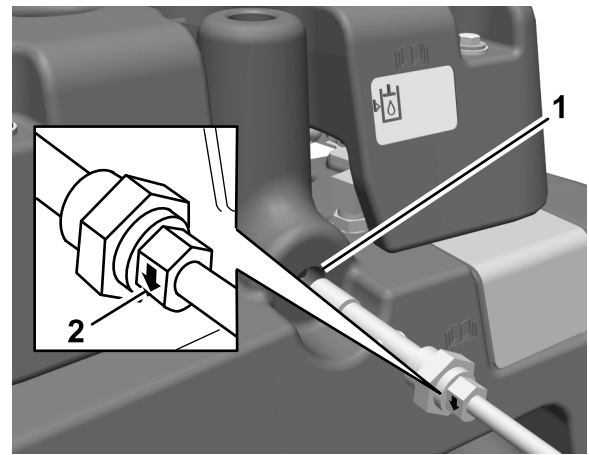

Figure 9
18. Remove the plug from the main hydraulic tank (Figure 9).
19. Slide the O-ring onto the hydraulic-oil-level sensor and install the sensor into the hydraulic tank (Figure 9).
Important: Ensure that the indicator arrow on each side of the nut that secures the hydraulic oil level sensor points downward (Figure 9).